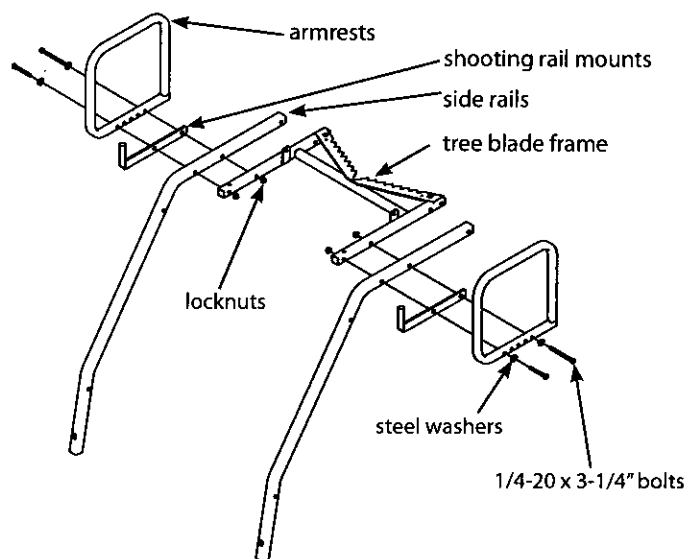

Figure 2A
2. Attach the tree blade frame (1ML34) to the inside of side rails, and the (2) shooting rail mounts (112ML43) and (2) armrests (LFX5) to the outside of side rails using (4) provided 1/4-20 x 3-1/4" bolts, locknuts and steel washers. **SEE FIGURE 2A.**